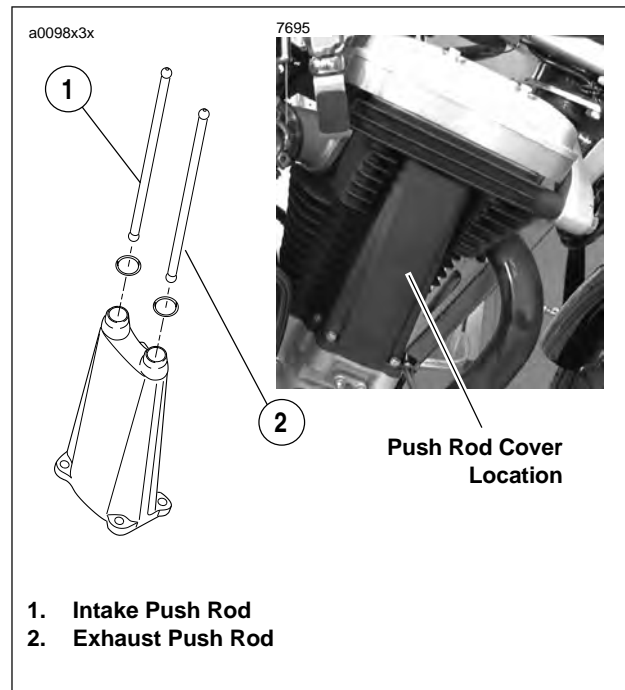

Figure 3-64. Push Rod Locations
13. See Figure 3-64. See Table 3-7. Identify push rod color coding, length and respective push rod positions in engine. Place intake and exhaust push rods onto seat at top of tappet.